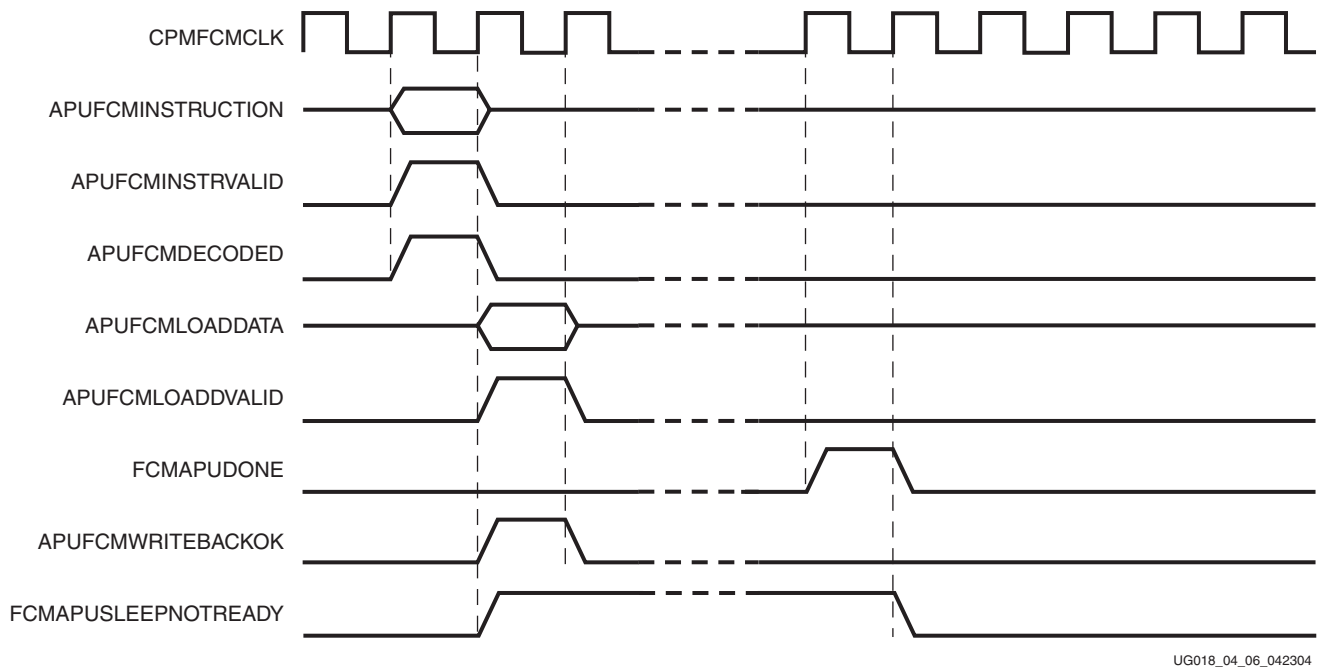
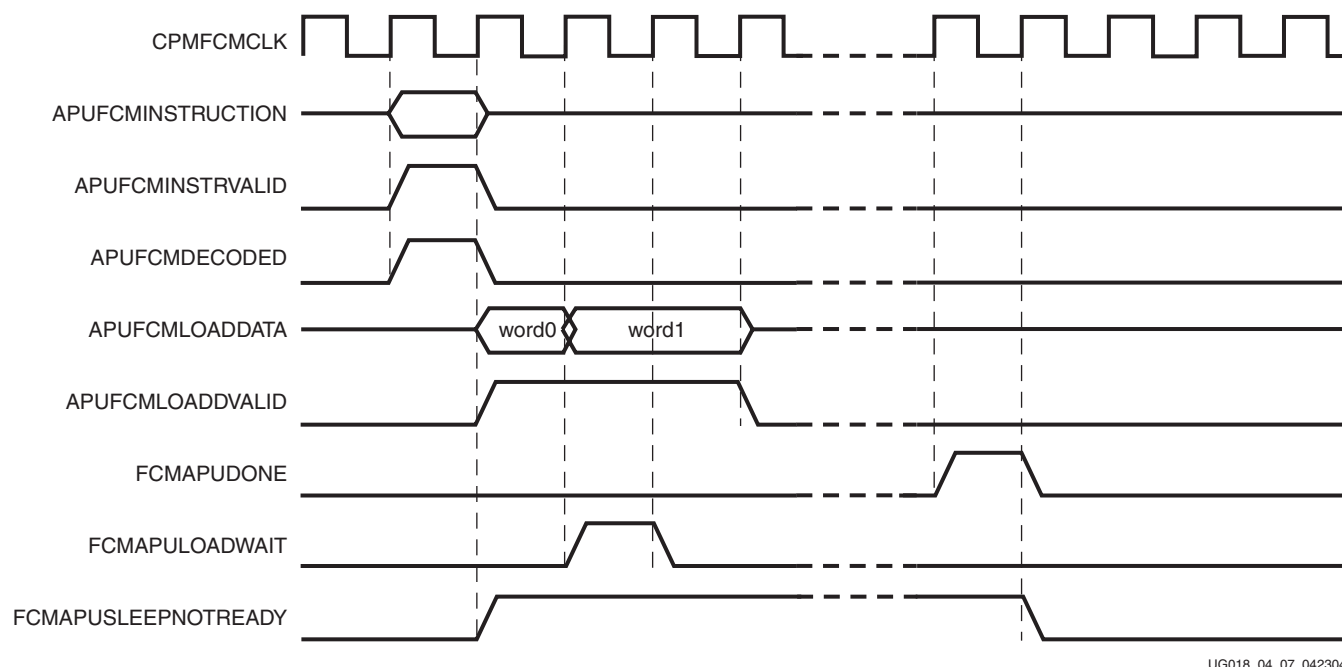

Figure 4-7: APU Controller Decoded Load Instruction Example
Figure 4-8: APU Controller Decoded a Double Word Load Instruction with LoadWait Example
In the example shown in Figure 4-7 (load word), APUFCMLOADDATA[0:31], APUFCMLOADVALID, and APUFCMWRITEBACKOK are seen one cycle after the instruction is presented. These signals can arrive at the same time as the instruction signals or anytime afterward. The timing of these signals depend both on the current situation in the CPU pipeline and the clock ratio between the FCM and CPU. However, in the case of load byte, load half word, and load word instructions APUFCMAPUFCMLOADDATA[0:31], APUFCMLOADVALID, and APUFCMWRITEBACKOK will all arrive during the same cycle. For multi-word loads APUFCMWRITEBACKOK will arrive no later than the final word. APUFCMLOADBYTEEN[0:3] is not shown in this example. It will be valid the same cycle as APUFCMLOADVALID. The byte enables map to the load data bus in the following manner:
In the example shown in Figure 4-7, FCMAPUSLEEPNOTREADY is set High the cycle after the instruction signals are received. This is the latest cycle the signal should go High and it should remain High until the instruction is completely finished in the FCM (even if FCMAPUDONE has been sent). FCMAPUSLEEPNOTREADY will not prevent a new instruction from being sent to the FCM.
**Note:** Load data can arrive at the same time as the instruction or at a later clock cycle than shown in Figure 4-7.
The example shown in Figure 4-8 is similar to Figure 4-7 with two exceptions. This example shows two words being transferred and the FCM is using FCMAPULOADWAIT.
In Figure 4-7, the FCM does not have enough room to accept the second load word and therefore uses FCMAPULOADWAIT. If FCMAPULOADWAIT is set High APUFCMLOADDATA[0:31] and APUFCMLOADVALID will remain asserted until FCMAPULOADWAIT is deasserted. It should be noted that the second word may arrive later than shown. Multi-words are not necessarily sent back-to-back.
**Note:** Load data can arrive at the same time as the instruction or at a later clock cycle than shown in Figure 4-8. Also, load data might not be sent back-to-back. Users should look at the valid signal.